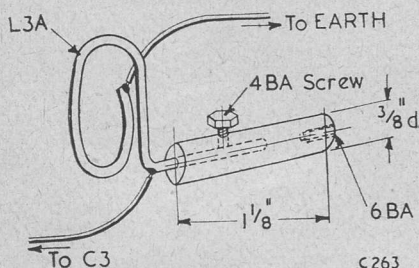

Fig. 5.
- L3A, see Fig. 5
The cure is to increase the efficiency of the receiver smoothing circuits, or to add extra decoupling to the oscillator anode, Fig. 5, using whichever is the simpler course.
Fig. 5. (a) A typical circuit, often used in practice, wherein may lie the cause of "oscillator wobble" (see text). (b) The addition of an extra smoothing circuit for the oscillator anode. The additional capacitor may be an electrolytic component if of good quality. (L is the Feedback Coil and R is approx. 20,000  $\Omega$ ).
Increase efficiency of receiver smoothing or add decoupling components to oscillator anode feed as shown in Fig. 5.